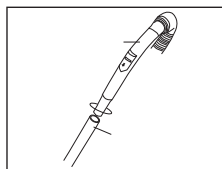

Fig. 3
2. Insert the hose handle into the wider opening of the telescopic tube. Insert the smaller opening of the tube into the opening of the floor brush and twist to fasten (fig. 3, 4). Activate the built-in retractable brush by pressing the button on the floor brush. Use the nozzle with the retracted brush to clean mosquito nets and carpets, with the extended brush to clean wooden floors, hardwood floors, tiles, etc.